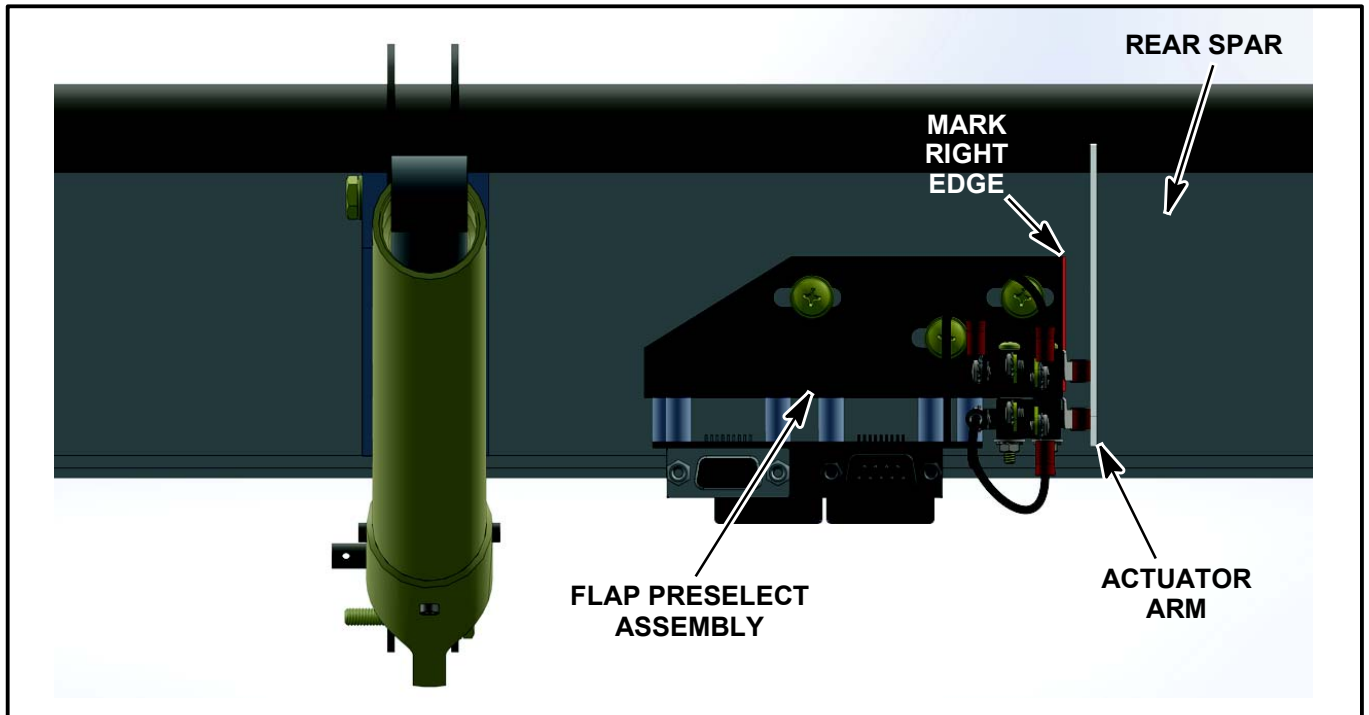

Figure SIM20-142-02A - MARK REAR SPAR WITH SHARPIE
- 1.5. Using a red sharpie (included in kit), mark the rear spar using right edge of the preselect board as shown in Figure SIM20-142-02A.